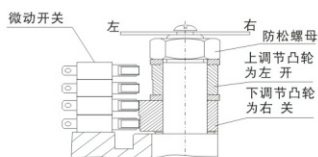
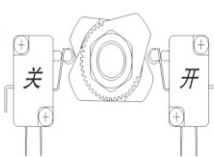

图12
图13
一、行程限位的调整(图12、图13)
I. Adjustment of travel limit (figure 12, figure 13)